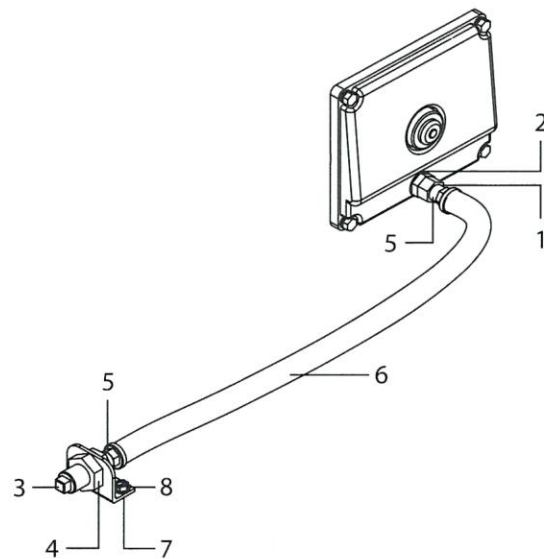

Figure 4
3. Install 1/4" BSP fitting (Figure 4, item 1) with o-ring (2) into rear cover of pump.
4. Attach hose barbs (5) to each end of 3/8" hose (6).
5. Thread one end of hose (6) into fitting (1) of rear cover.
6. Remove nut from 1/4" union fitting (4).
7. Thread in hose (6) with barb end into large end of union fitting (4).
8. Mount bracket (7) with screws (8) into desired position to maximize drainage.
9. Install hose assembly with union fitting end through mounting bracket (7) or panel (Bulkhead hole is .78" diameter).
10. Reinstall nut onto threads of union fitting (4) and tighten.